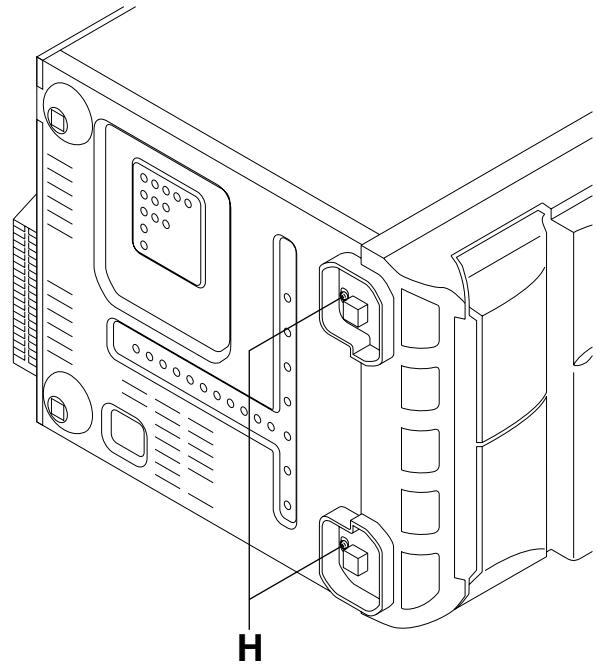

Fig.11
■ Removing the front panel assembly (See Fig.11 and 12)